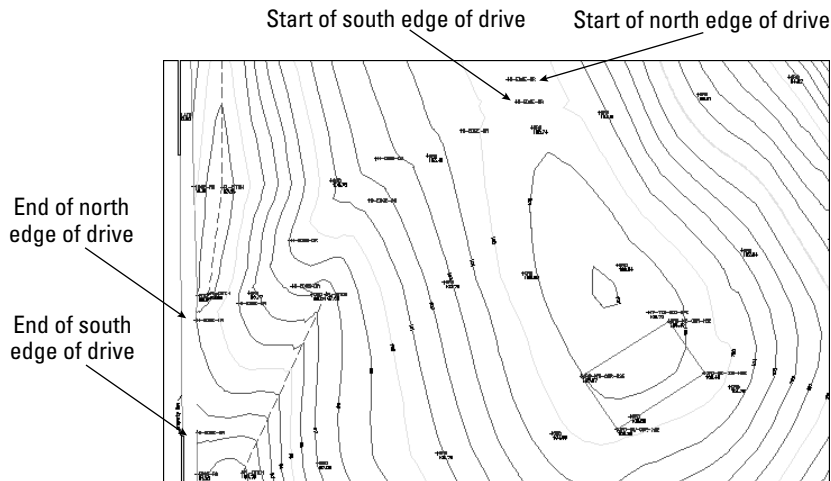

Figure 16-6: A topographical site map. You can complete the gravel road based on surveyor's data.
2. Save the file as `ab16-03.dwg` in your AutoCAD Bible folder. This is a topographical site map, shown in Figure 16-6. OSNAP should be on. Set a running object snap for insertion.
4. At the `Specify first point or [Object]:` prompt, use the Insert object snap to pick the cross at the start of the north edge of the drive, as shown in Figure 16-6. Continue to pick the crosses marked N-EDGE-DR. Choose Pan from the Standard toolbar to do a real-time pan when you reach the edge of the display. Press Esc. Continue picking points until you get to the end of the north edge of the drive, as shown in Figure 16-6. Press Enter to end point selection.
6. Start the SPLINE command again and pick points for the south edge of the drive, from the start of the south edge of the drive to the end, as shown in Figure 16-6. Pan as necessary. Again, press Enter to accept the default directions for the start and end tangents.